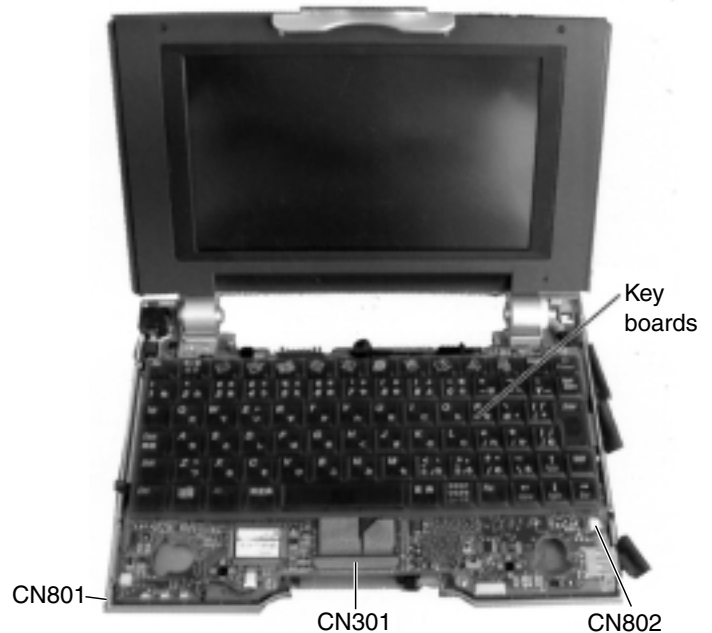

Fig. 3
10. Disconnect CN301 and remove the keyboard by lifting it. (Fig. 3)